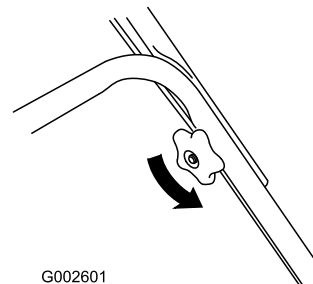

Figure 43
1. Loosen the handle knobs until you can move the upper handle freely (Figure 43).